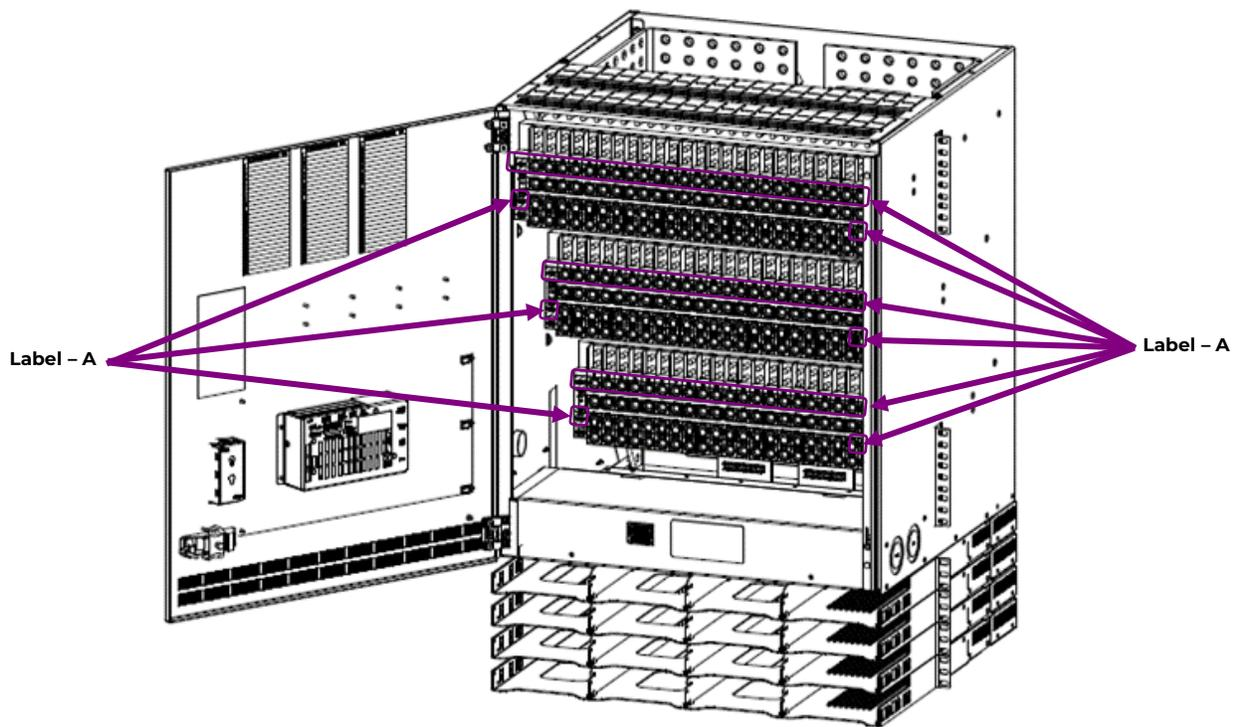

Figure 1. Applying label A
2. Paste labels (8600467207P) on distribution panel as shown in figure 1 & 2 for system output upgraded from 48V/+24V to -48V/-58V.